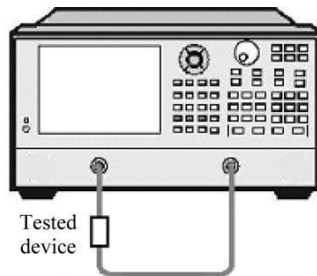

Fig. 8.21 Connection in Linear phase offset Measurement
- 3) Connect the tested device as shown in Fig. 8.21.